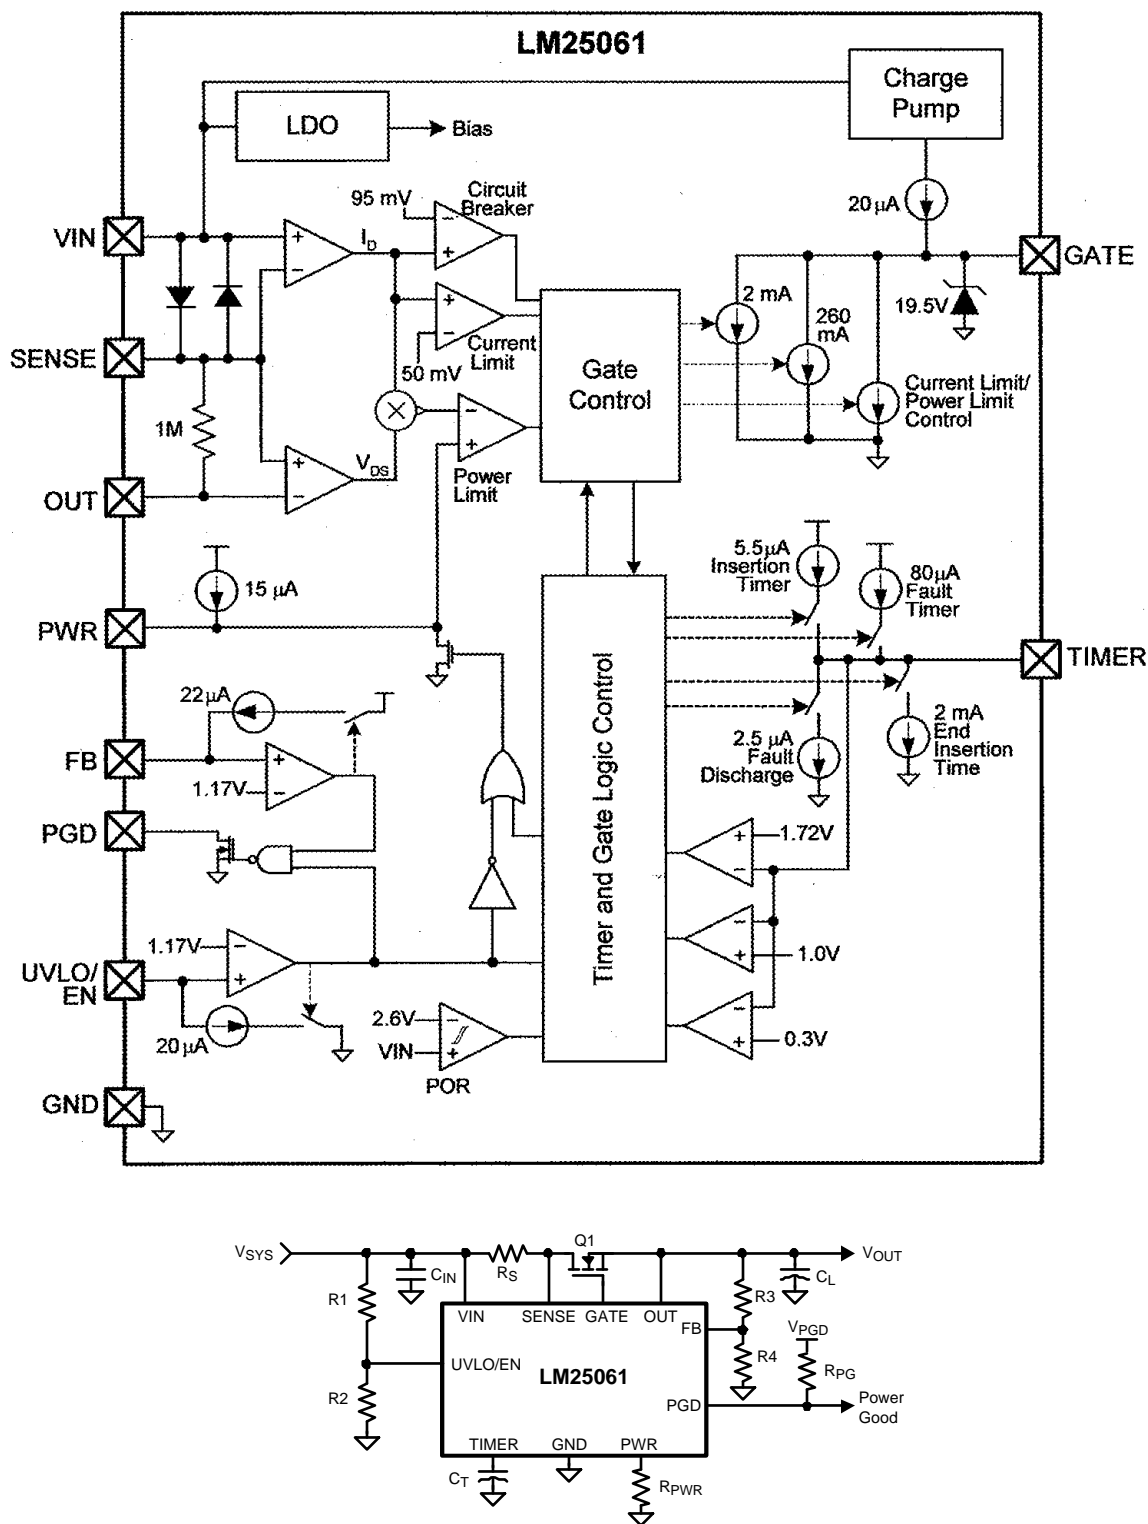
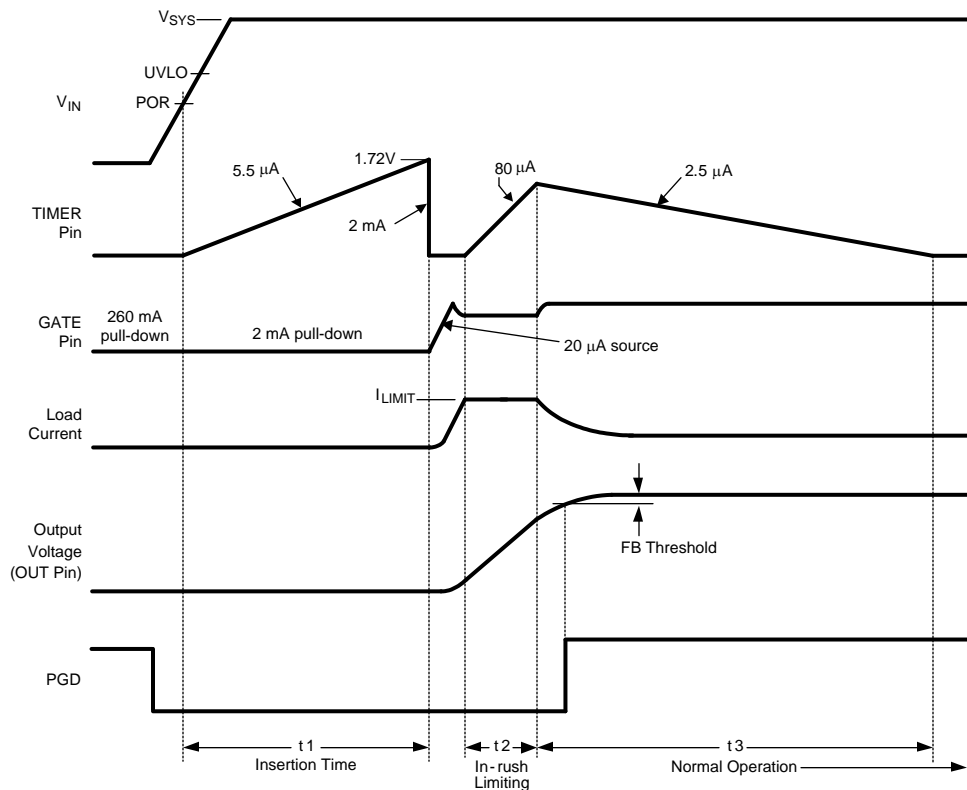

Figure 21. Basic Application Circuit
Figure 23. Power Up Sequence (Current Limit only)
The VIN operating range of the LM25061 is +2.9V to +17V, with a transient capability to 20V. Referring to the Block Diagram and Figure 21 and Figure 23, as the voltage at VIN initially increases, the external N-channel MOSFET (Q1) is held off by an internal 260 mA pull-down current at the GATE pin. The strong pull-down current at the GATE pin prevents an inadvertent turn-on as the MOSFET's gate-to-drain (Miller) capacitance is charged. Additionally, the TIMER pin is initially held at ground. When the VIN voltage reaches the POR threshold the insertion time begins. During the insertion time, the capacitor at the TIMER pin (C_T) is charged by a 5.5 μ A current source, and Q1 is held off by a 2 mA pull-down current at the GATE pin regardless of the VIN voltage. The insertion time delay allows ringing and transients at VIN to settle before Q1 is enabled. The insertion time ends when the TIMER pin voltage reaches 1.72V. C_T is then quickly discharged by an internal 2 mA pull-down current. The GATE pin then switches on Q1 when V_{SYS} exceeds the UVLO threshold. If V_{SYS} is above the UVLO threshold at the end of the insertion time, Q1 switches on at that time. The GATE pin charge pump sources 20 μ A to charge Q1's gate capacitance. The maximum voltage at the GATE pin is limited by an internal 19.5V zener diode.
As the voltage at the OUT pin increases, the LM25061 monitors the drain current and power dissipation of MOSFET Q1. In-rush current limiting and/or power limiting circuits actively control the current delivered to the load. During the in-rush limiting interval (t_2 in Figure 23) an internal 80 μ A fault timer current source charges C_T . If Q1's power dissipation and the input current reduce below their respective limiting thresholds before the TIMER pin reaches 1.72V the 80 μ A current source is switched off, and C_T is discharged by the internal 2.5 μ A current sink (t_3 in Figure 23). The in-rush limiting interval is complete when the load current reduces to the normal operating level. The PGD pin switches high when the output voltage exceeds the threshold programmed at the FB pin.
A charge pump provides the voltage at the GATE pin to enhance the N-Channel MOSFET's gate. During normal operating conditions (t_3 in Figure 23) the gate of Q1 is held charged by an internal 20 μA current source. The voltage at the GATE pin (with respect to ground) is limited by an internal 19.5V zener diode. See the graph "GATE Pin Voltage". Since the gate-to-source voltage applied to Q1 could be as high as 19.5V during various conditions, a zener diode with the appropriate voltage rating must be added between the GATE and OUT pins if the maximum V_{GS} rating of the selected MOSFET is less than 19.5V. The external zener diode must have a forward current rating of at least 260 mA.
During the insertion time (t_1 in Figure 23) the GATE pin is held low by a 2 mA pull-down current. This maintains Q1 in the off-state until the end of t_1 , regardless of the voltage at VIN or UVLO.
Following the insertion time, during t_2 in Figure 23, the gate voltage of Q1 is modulated to keep the current or power dissipation level from exceeding the programmed levels. While in the current or power limiting mode the TIMER pin capacitor is charging. If the current and power limiting cease before the TIMER pin reaches 1.72V the TIMER pin capacitor then discharges, and the circuit enters normal operation.
The series pass MOSFET (Q1) is enabled when the input supply voltage (V_{SYS}) is greater than the programmable under-voltage lockout (UVLO) level. Typically the UVLO level at V_{SYS} is set with a resistor divider (R1-R2) as shown in Figure 21. Referring to the Block Diagram when V_{SYS} is below the UVLO level, the internal 20 μA current source at UVLO is enabled, and Q1 is held off by the 2 mA pull-down current at the GATE pin. As V_{SYS} is increased, raising the voltage at UVLO above its threshold the 20 μA current source at UVLO is switched off, increasing the voltage at UVLO, providing hysteresis for this threshold. With the UVLO pin above its threshold, Q1 is switched on by the 20 μA current source at the GATE pin if the insertion time delay has expired. See the Applications Section for a procedure to calculate the values of the threshold setting resistors (R1-R2). The minimum possible UVLO level at V_{SYS} can be set by connecting the UVLO pin to VIN. In this case Q1 is enabled after the insertion time.
The Power Good indicator pin (PGD) is connected to the drain of an internal N-channel MOSFET capable of sustaining 17V in the off-state, and transients up to 20V. An external pull-up resistor is required at PGD to an appropriate voltage to indicate the status to downstream circuitry. The off-state voltage at the PGD pin can be higher or lower than the voltages at VIN and OUT. The PGD pin switches high when the voltage at the FB pin exceeds its threshold. Typically the output voltage threshold is set with a resistor divider (R3-R4) as shown in Figure 21, although the monitored voltage need not be the output voltage. Any other voltage can be monitored by connecting R3 to that voltage as long as the voltage at the FB pin does not exceed its maximum rating. Referring to the Block Diagram, when the voltage at the FB pin is below its threshold, the internal 22 µA current source at FB is disabled. As the output voltage increases, taking FB above its threshold, the current source is enabled, sourcing current out of the pin, raising the voltage at FB to provide threshold hysteresis.
(Refer to Figure 21)
A) Insertion Delay - Upon applying the system voltage (V_{SYS}) to the circuit, the external MOSFET (Q1) is held off during the insertion time (t_1 in Figure 23) to allow ringing and transients at V_{SYS} to settle. Since each backplane's response to a circuit card plug-in is unique, the worst case settling time must be determined for each application. The insertion time starts when V_{IN} reaches the POR threshold, at which time the internal 5.5 μA current source charges C_T from 0V to 1.72V. The required capacitor value is calculated from: